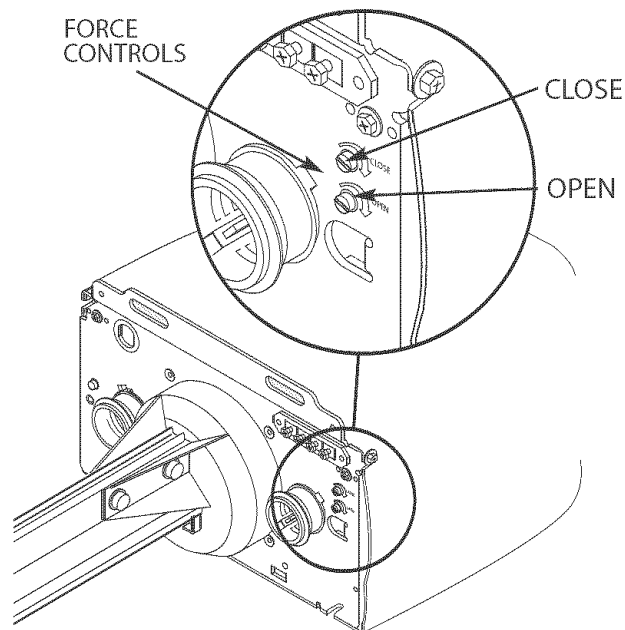

Figure MA-1 Making Force Adjustments
- On front panel of Power Head find adjusting screw marked "CLOSE" (**Figure MA-1**).
- On front panel of Power Head find adjusting screw marked "OPEN" (**Figure MA-1**).